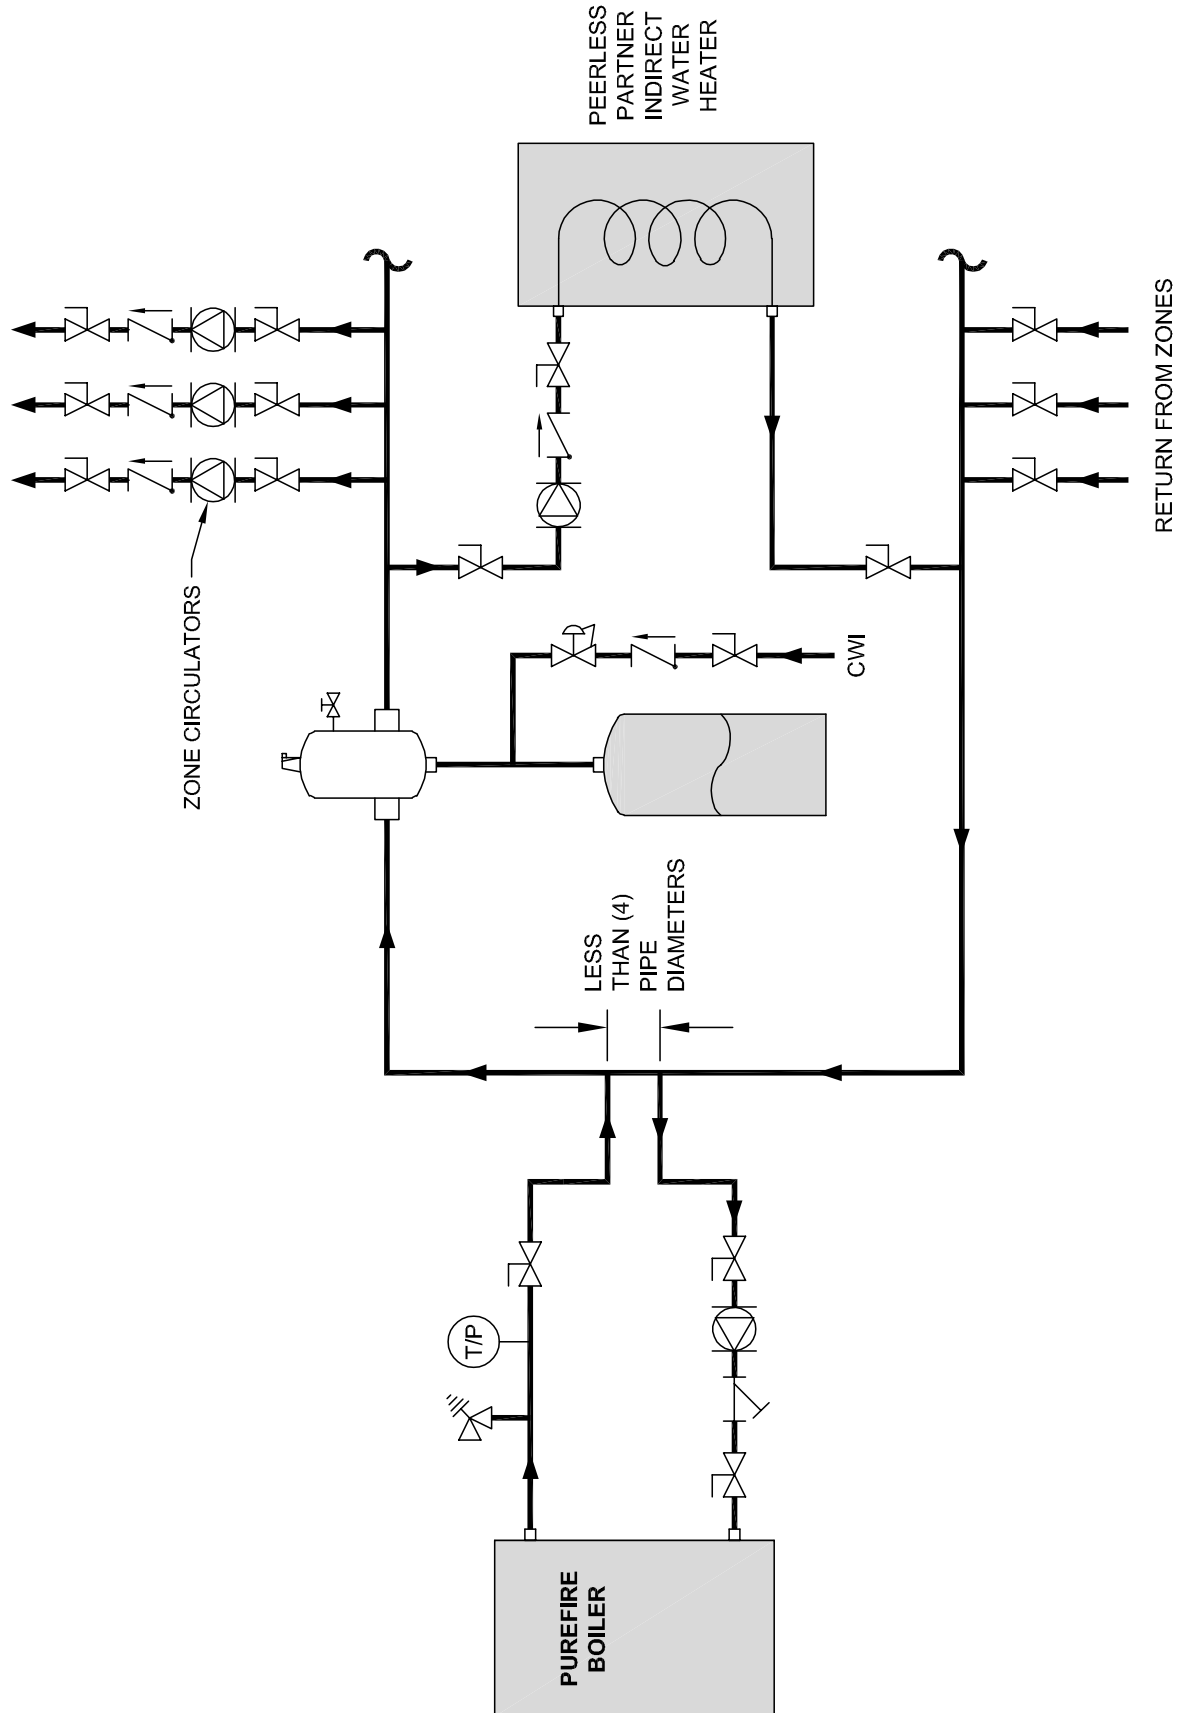
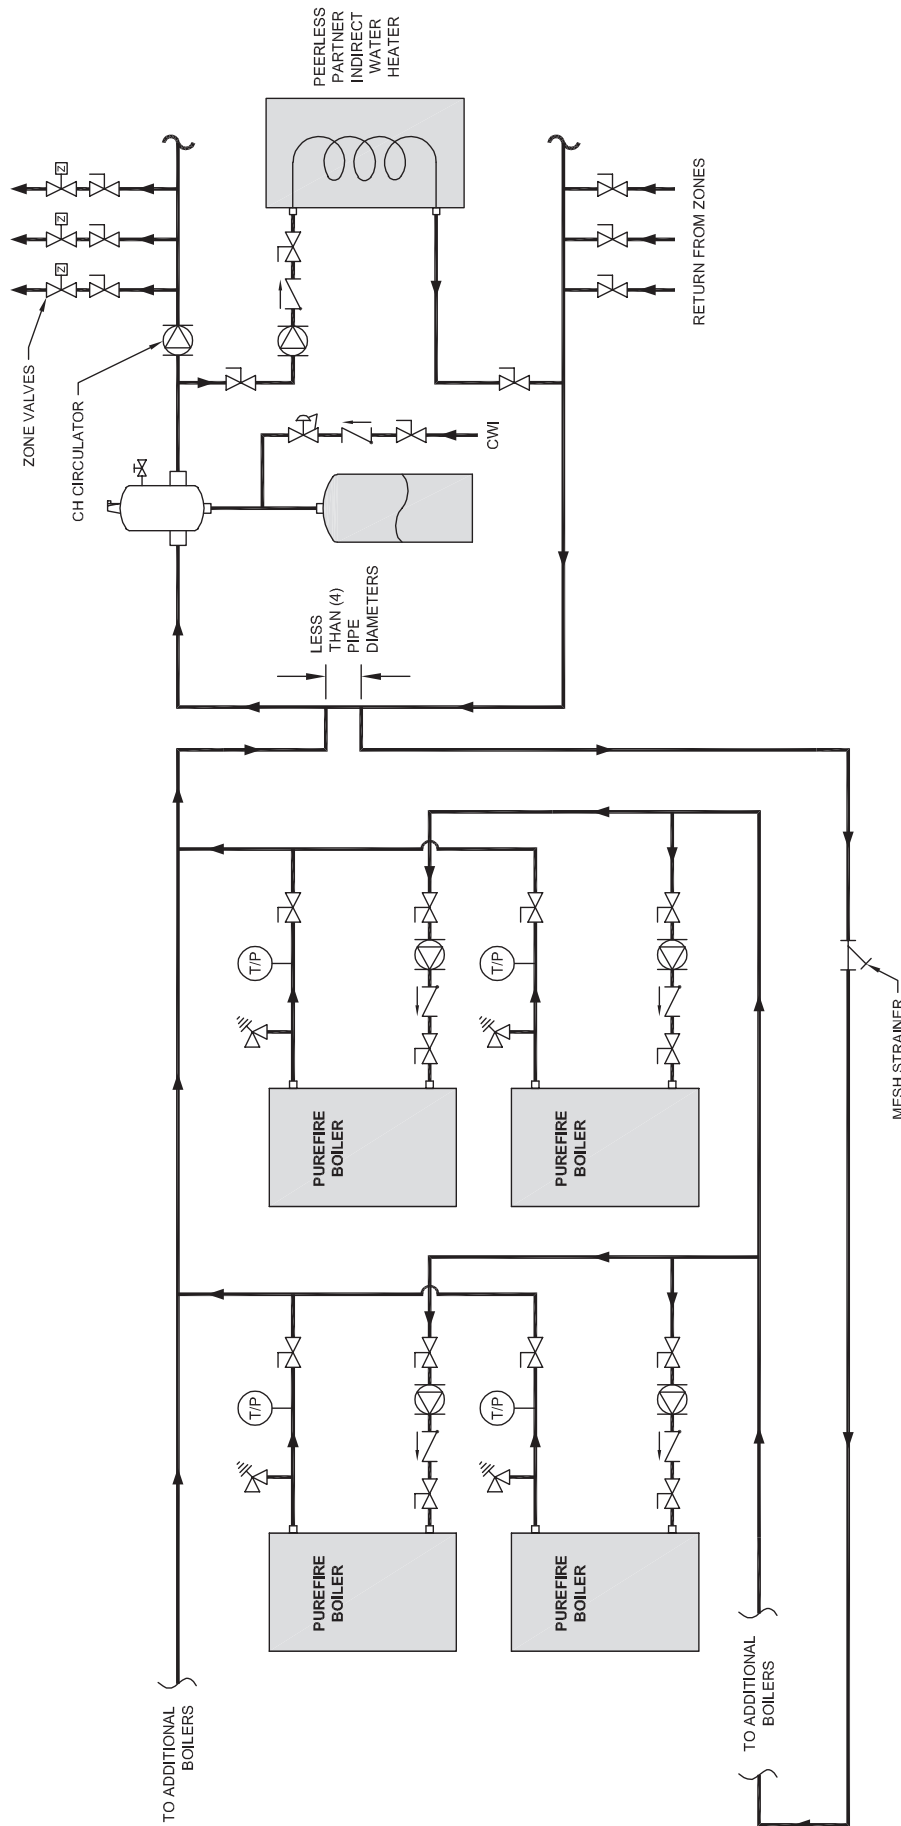

Figure 4.4: Recommended Piping – One Boiler with Multiple CH Zones & One DHW Tank
Figure 4.6: Alternate Piping – Multiple Boilers with Multiple CH Zones (Zone Valves) & One DHW Tank
1. Figure 4.4 shows a single boiler with multiple heating zones. In this case, the DHW zone is piped in parallel to the heating zones on the primary loop.
3. Figure 4.6 shows a multiple boiler configuration which uses zone valves instead of zone circulators. Systems which combine both zone valves and zone circulators can help to minimize electrical loads if there are small zones in the system. Contact your PB Heat, LLC representative for assistance with larger systems.
Figures 4.4 through Figure 4.6 are recommended piping schematics. Other system piping designs are acceptable as long as steps are taken to ensure the minimum flow rates are met.